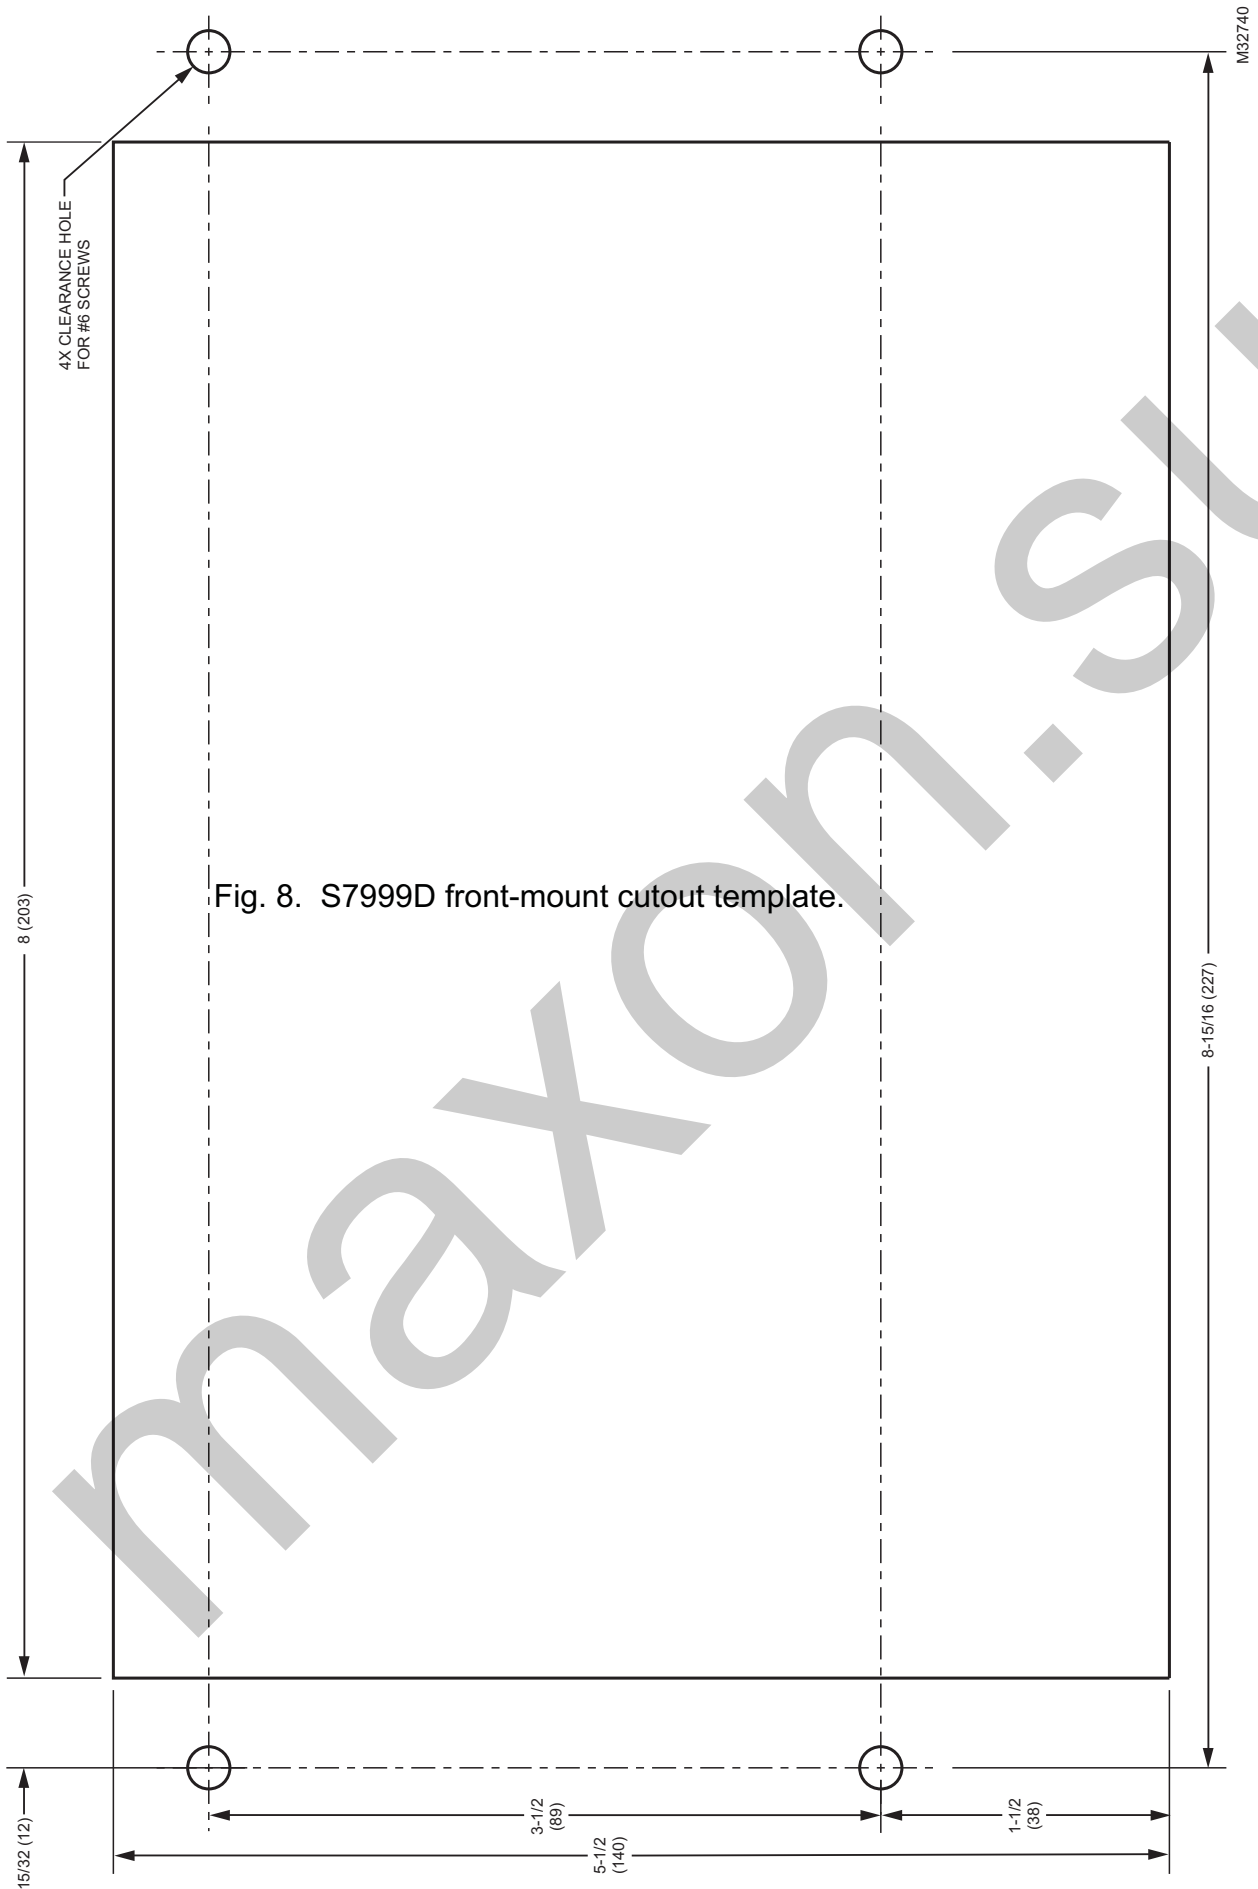
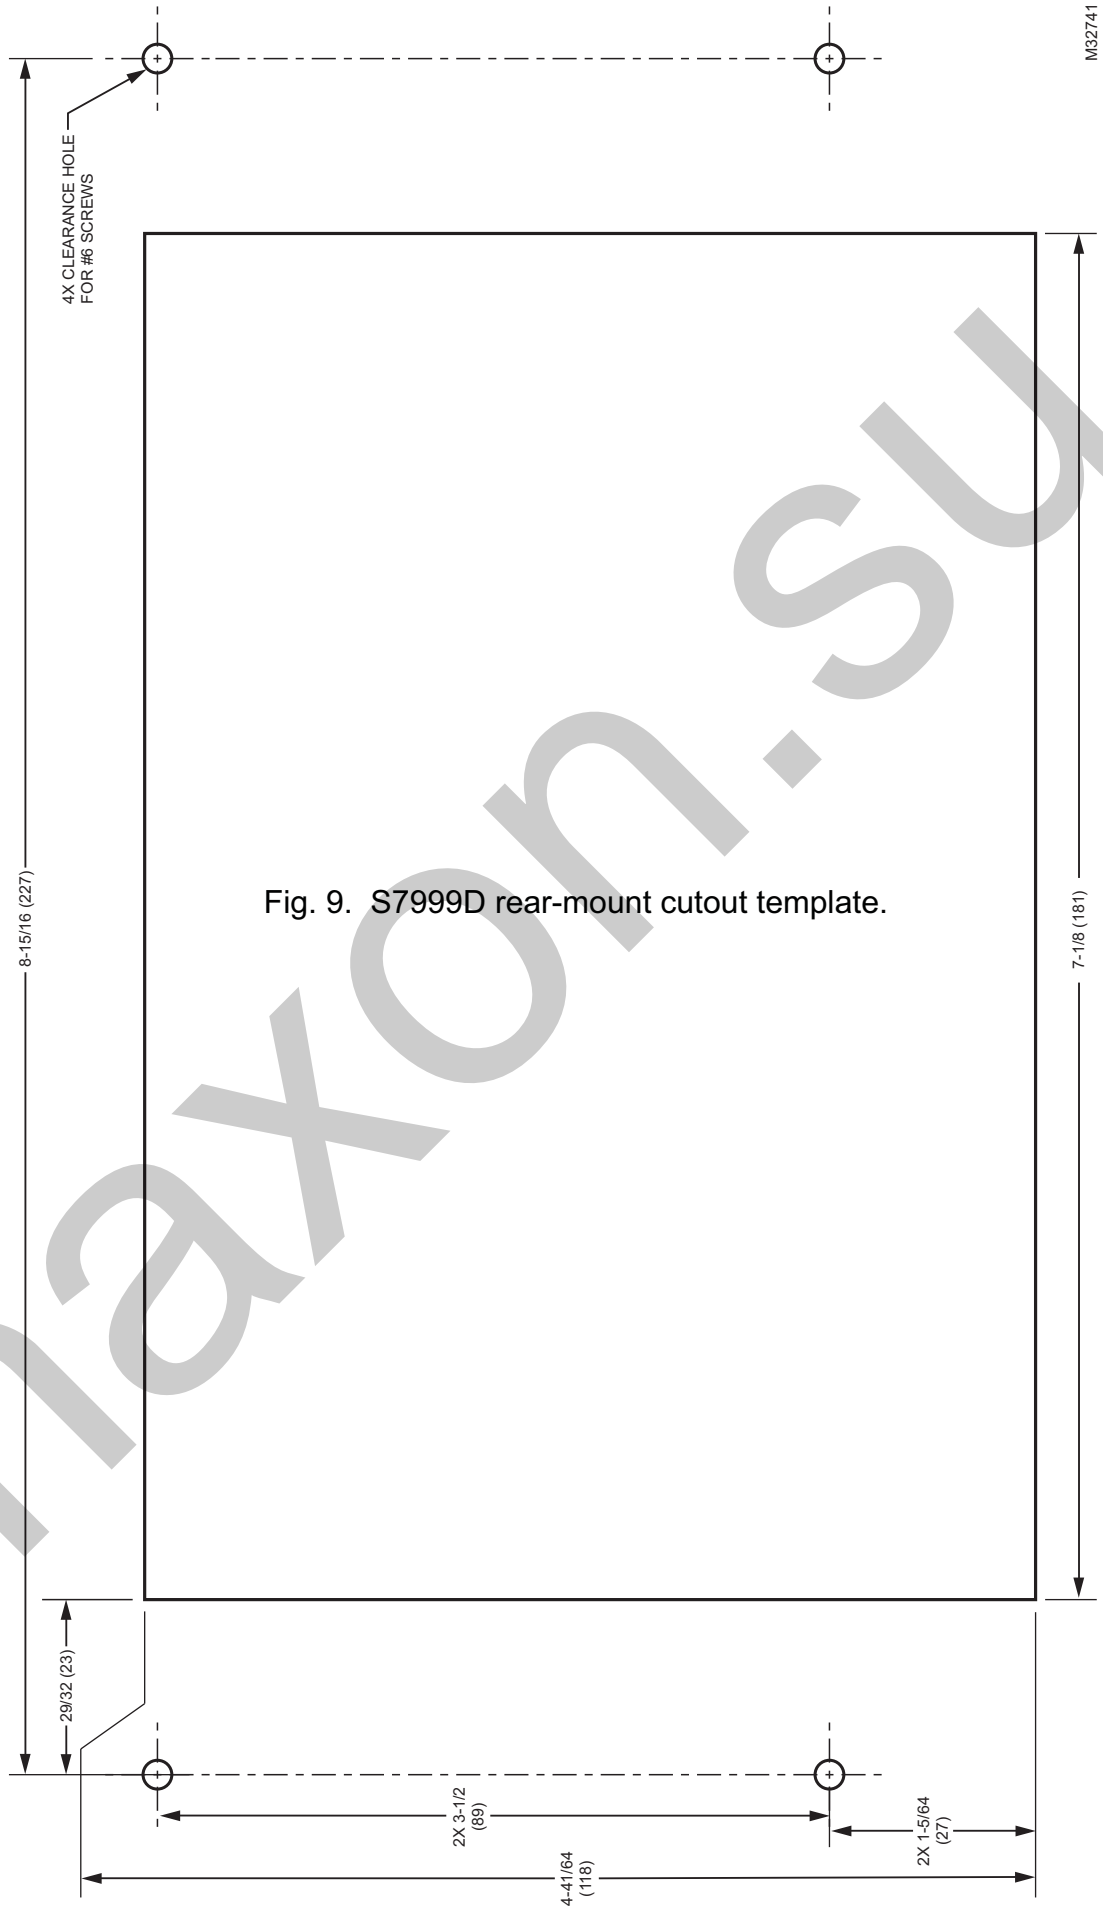

Fig. 8. S7999D front-mount cutout template.
Fig. 9. S7999D rear-mount cutout template.
2. Provide an opening in the panel door 8" wide X 5 1/2" high (for front panel mount) or 7 1/8" wide X 4 11/16" high (for rear panel mount). Use cutout templates provided in Fig. 8 and Fig. 9.